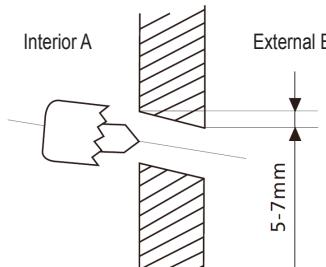

fig. 11 -
5. Drill a Ø65 mm hole (or Ø90 mm depending on the model) in the wall ("fig. 11 -"), slightly sloping downwards towards the outer part, starting to drill from one side of the wall (A) and ending with the opposite side (B) to prevent the actual wall from breaking.